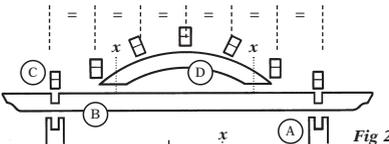
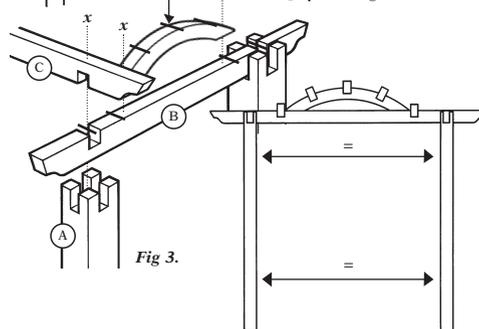

Fig 2.
Fig 3.
2. The curved Beams (D) have to be fixed to the Rafters (B). Mark the centres of the Rafter and the Curved Beam and line up before fixing the Curved Beam with screws (x) (see Fig.2).
3. Once this has been done, mark out the points where the remaining rafters (C) will be fixed. Two of the Rafters will locate in the top of the posts to form a square structure. Therefore, two points between the centre and the morticed point need to be marked.
5. Next, insert one of the Rafters with a Curved Beam attached into the tops of the Posts (Fig.3).